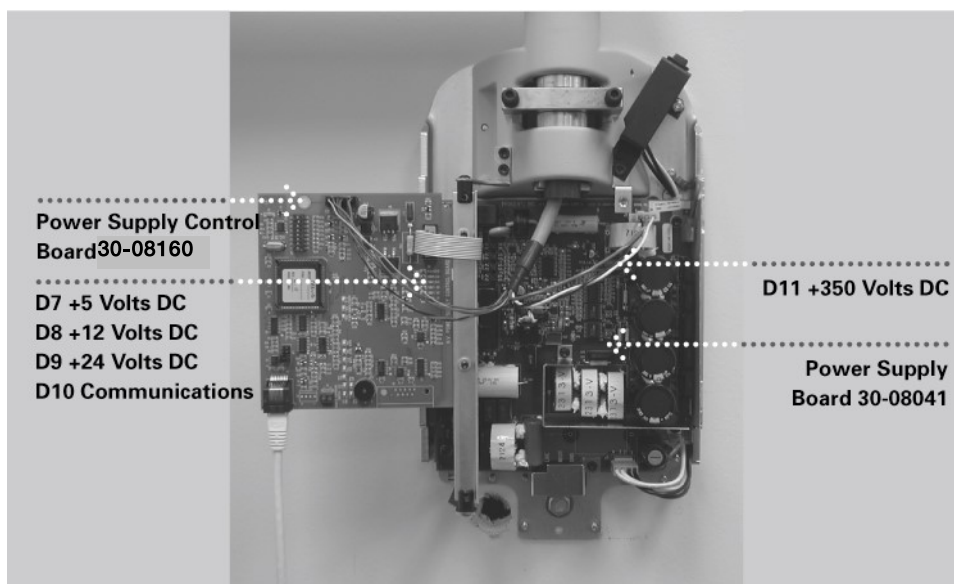

Figure 34
1. On Power Supply Board 30-08041, shown in *Figure 34*, verify that LED D11 is illuminated. The illuminated LED verifies that appropriate supply voltages are present.
2. On the Power Supply Control Board 30-08160, shown in *Figure 34*, verify that LEDs D7 (+5VDC), D8 (+12VDC) and D9 (+24VDC) are illuminated and LED D10 is flashing. Each illuminated LED verifies that appropriate supply voltages are present. If the LEDs are not illuminated, refer to the “No Operator Display but Power Switch is On” procedure in the Troubleshooting on page 69 of this manual.